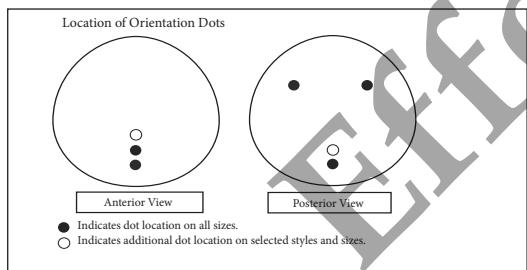

FIGURE 1
- Anatomically shaped *Natrelle®* single lumen gel-filled breast implants include orientation dots to aid in correct implant positioning during surgery (see Figure 1).